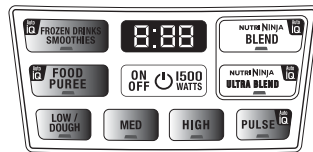

Fig. 6
**NOTE:** Nutri Ninja® | Ninja® Blender System with Auto-iQ® Technology can sense which jar is on the motor base. The available function lights will illuminate depending on which jar is placed on the motor base. (Fig. 6)